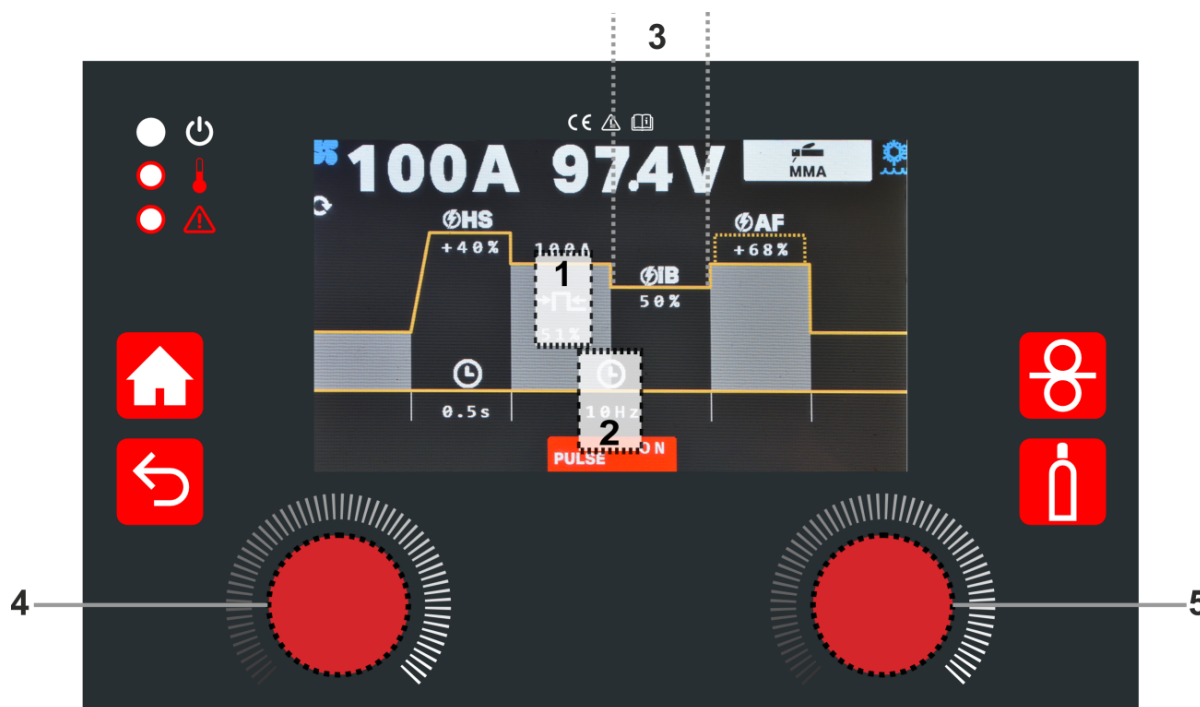

Fig. 16
- Set PULSE to ON by means of the right side encoder (5 – Fig. 16). In pulsed MMA, the welding current oscillates between a high and a low current value allowing less thermal input in thinner plates and greater arc control in the most demanding positions (vertical ascending).